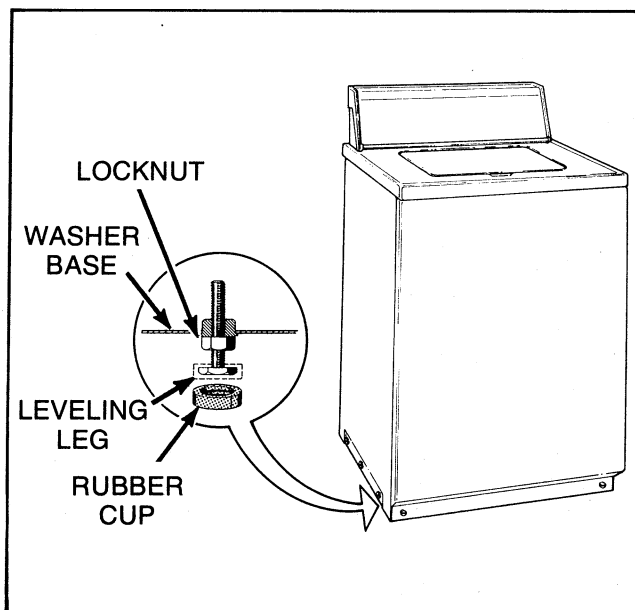

Figure 38
34. LEVELING LEGS (Refer to Figure 38)